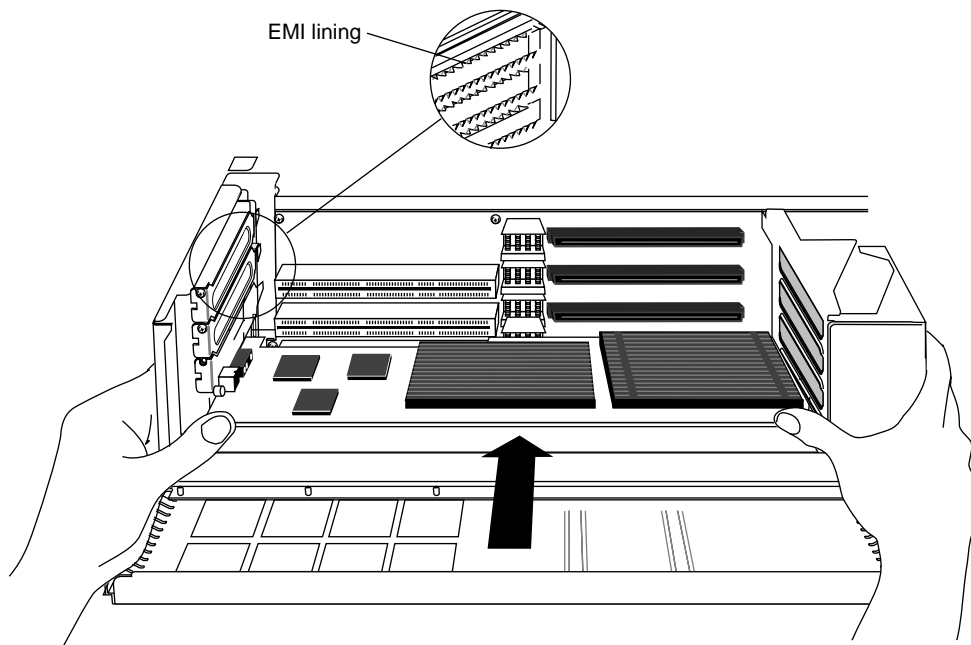

Figure 5-45 Replacing the Solid IMPACT Graphics Board
- Grasp the chassis with your fingers and push the board set into place with your thumbs. See Figure 5-45.